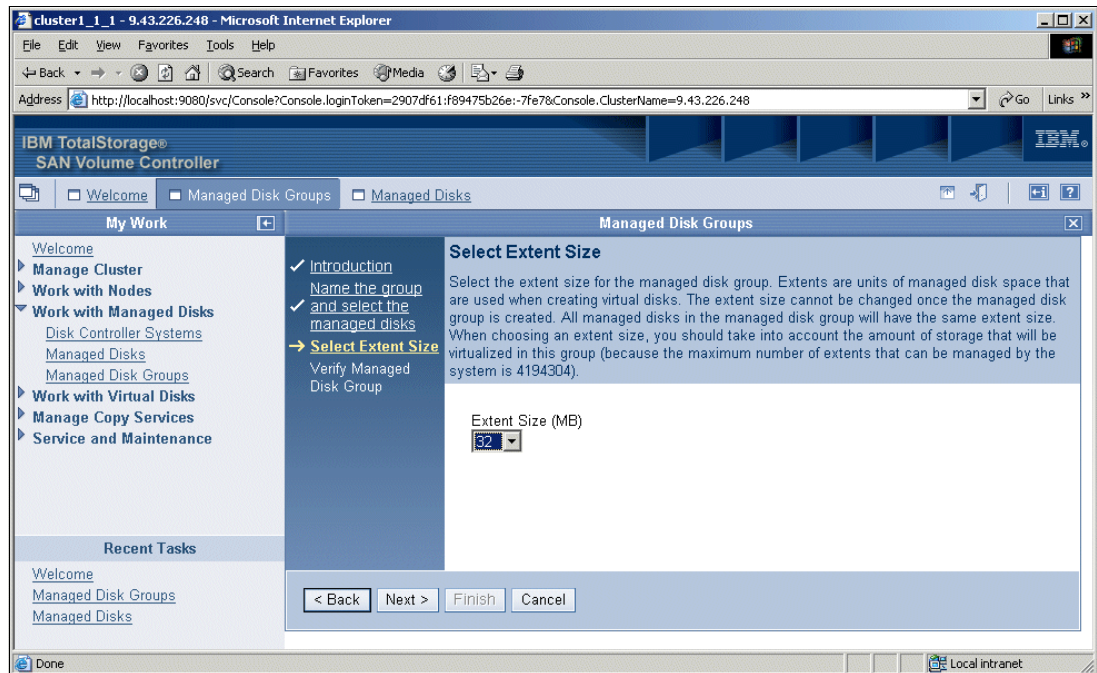

Figure 9-42 Select Extent Size for the MDG
4. On the Select Extent Size panel (Figure 9-42), select from the list the size of the extents you want to format your MDG. Click **Next**.